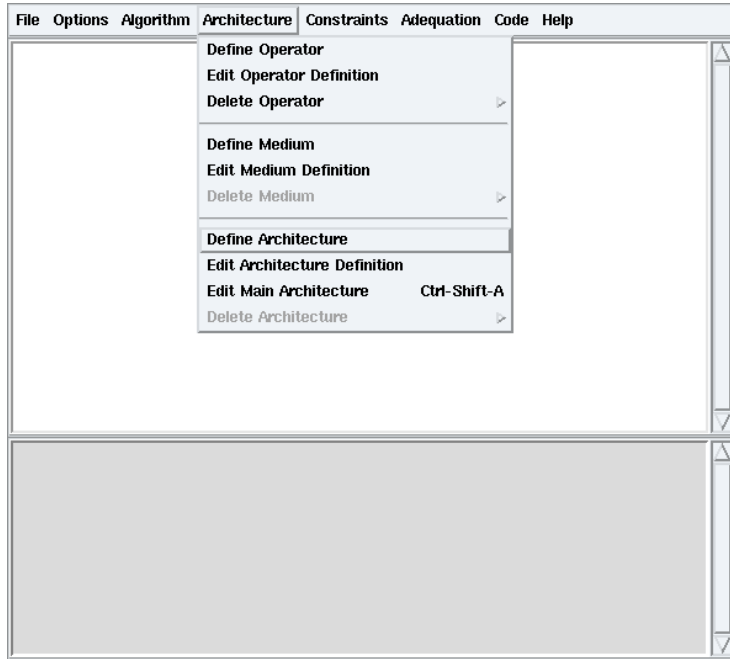

Figure 1.14: Architecture / Define Architecture
- from the principal window: **Architecture / Define Architecture** (cf. figure 1.14) → dialog window: type ArchiOneOperator then click **OK** → definition window;
- from the principal window: **Architecture / Define Architecture** (cf. figure 1.14) → dialog window `ArchiSamPointToPoint` → definition window;
- from the principal window: **Architecture / Define Architecture** (cf. figure 1.14) → dialog window: `ArchiSamMultiPoint` → `ArchiSamMultiPoint` definition window;
- from the principal window: **Architecture / Define Architecture** (cf. figure 1.14) → dialog window `ArchiRam` → `ArchiRam` definition window;